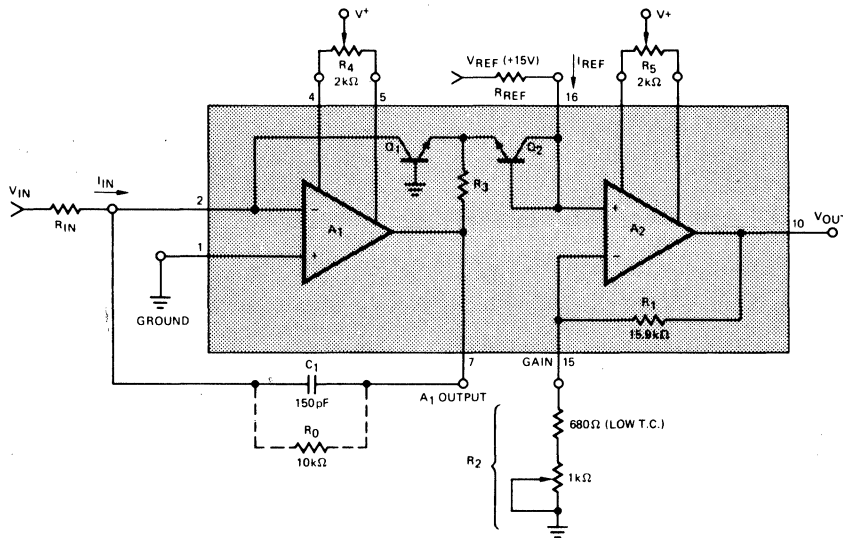
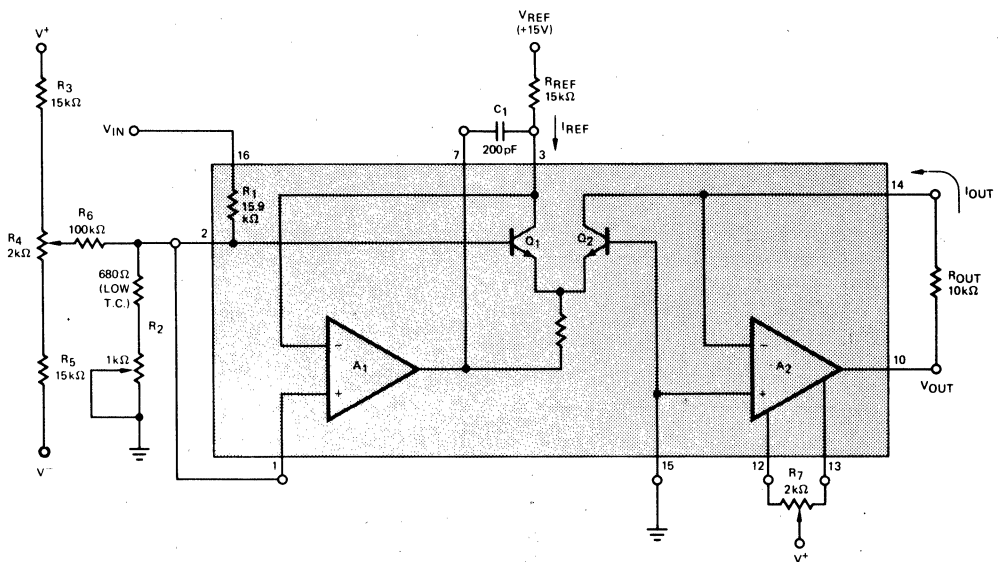
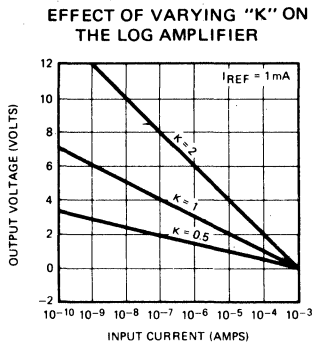
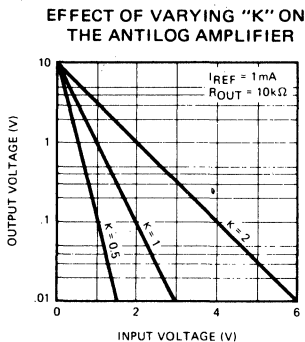

FIGURE 1. ICL8048 OFFSET AND SCALE FACTOR ADJUSTMENT
FIGURE 2. ICL8049 OFFSET AND SCALE FACTOR ADJUSTMENT
FIGURE 3
FIGURE 4
Referring to Fig. 1, it is clear that the potential at the collector of Q_2 is equal to the ΔV_{BE} between Q_1 and Q_2 . The output voltage is ΔV_{BE} multiplied by the gain of A_2 :
A log amp, unlike an op-amp, cannot be offset adjusted by simply grounding the input. This is because the log of zero approaches minus infinity; reducing the input current to zero starves Q_1 of collector current and open the feedback loop around A_1 . Instead, it is necessary to zero the offset voltage of A_1 and A_2 separately, and then to adjust the scale factor. Referring to Fig. 1, this is done as follows:
The 8049 relies on the same logarithmic properties of the transistor as the 8048. The input voltage forces a specific ΔV_{BE} between Q_1 and Q_2 (Fig. 2). This V_{BE} difference is converted into a difference of collector currents by the transistor pair. The equation governing the behavior of the transistor pair is derived from (2) on Page 3 and is as follows:
As with the log amplifier, the antilog amplifier requires three adjustments. The first step is to null out the offset voltage of A_2 . This is accomplished by reverse biasing the base-emitter of Q_2 . A_2 then operates as a unity gain buffer with a grounded input. The second step forces $V_{IN} = 0$; the output is adjusted for $V_{OUT} = 10V$. This step essentially "anchors" one point on the transfer function. The third step applies a specific input and adjusts the output to the correct voltage. This sets the scale factor. Referring to Fig. 2, the exact procedure for 1 decade/volt is as follows:
By adjusting R_2 (Fig. 1 and Fig. 2) the scale factor "K" in equation 9 and 10 can be varied. The effect of changing K is shown graphically in Fig. 3 for the log amp, and Fig. 4 for the antilog amp. The nominal value of R_2 required to give a specific value of K can be determined from equation 11. It should be remembered that R_1 has a $\pm 20\%$ tolerance in absolute value, so that allowance shall be made for adjusting the nominal value of R_2 by $\pm 20\%$.
Although the op-amps in both the 8048 and the 8049 are compensated for unity gain, some additional frequency compensation is required. This is because the log transistors in the feedback loop add to the loop gain. In the 8048, 150 pF should be connected between Pins 2 and 7 (Fig. 1). In the 8049, 200 pF between Pins 3 and 7 is recommended (Fig. 2).